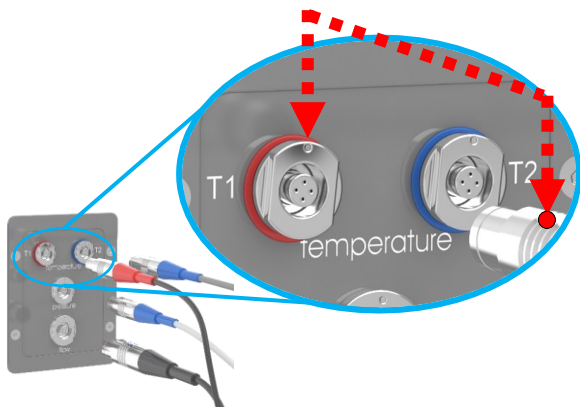

Figure 18 Connecting the sensors to the Pump Unit. Ensure proper alignment for each sensor, by orienting the sensor connection with the red dot facing upwards.
- Connect the temperature sensors, flow sensors and pressure sensors (Figure 18) to the Pump Units (Figure 3, item 9 and 10). Make sure to match the color coding of the temperature sensors. Make sure to connect the sensor connection with the red dot facing upwards.